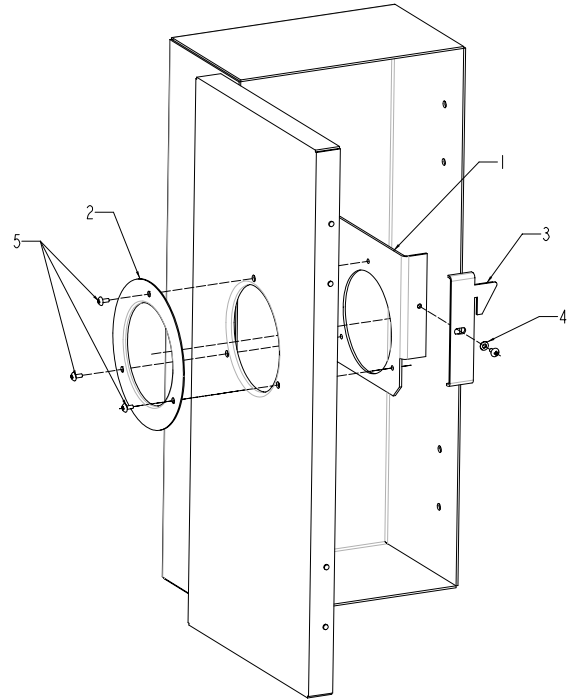

Figure 1. TDR integral handle operator kit.
1. Close enclosure door. Turn handle to ON. Door should not be able to open with handle in ON position. To open door, turn defeater screw (see figure 1) located in indicator plate counterclockwise, or turn handle to OFF position.